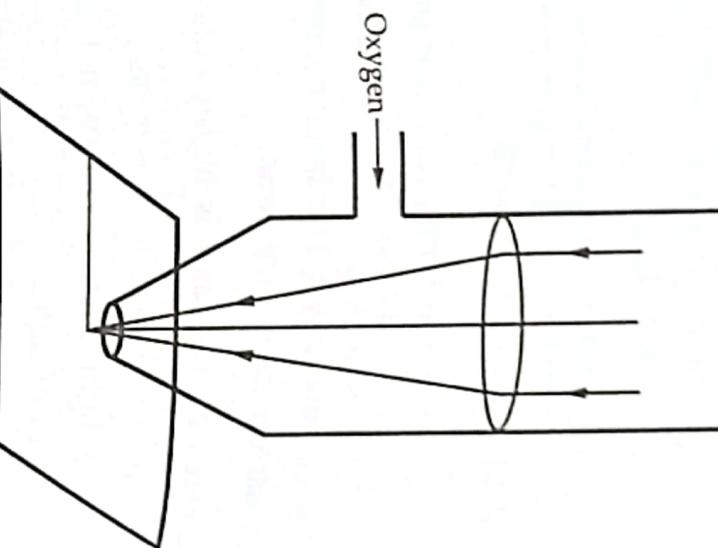

Fig. 6.14.2
- ii) **Cutting** : Cutting of metal sheets is achieved using high power lasers like NdYAG or CO₂ lasers. The laser is focussed on the metal sheet and a jet of oxygen is blown on the spot. A significant part of the energy required for cutting is supplied by burning of the metal in oxygen. The oxygen jet also blows away the vapourized metal and also cools the adjacent edges. An arrangement of gas laser cutting is shown in Fig. 6.14.2. Higher cutting speeds have been achieved with lasers compared to other conventional methods. Laser cutting produces higher quality of the cut edges.